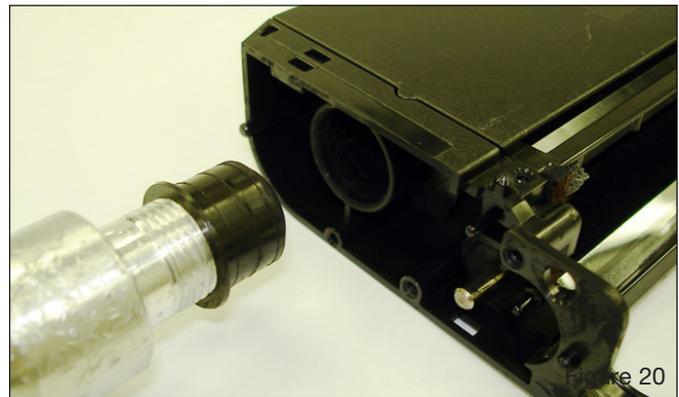

Figure 20
9. Use a Static Control hopper cap removal tool as seen in Figure 20 to remove the hopper cap. Screw the tool into the hopper cap and twist the hopper cap out and away from the hopper section. Thoroughly clean out the hopper section using dry, filtered, compressed air.